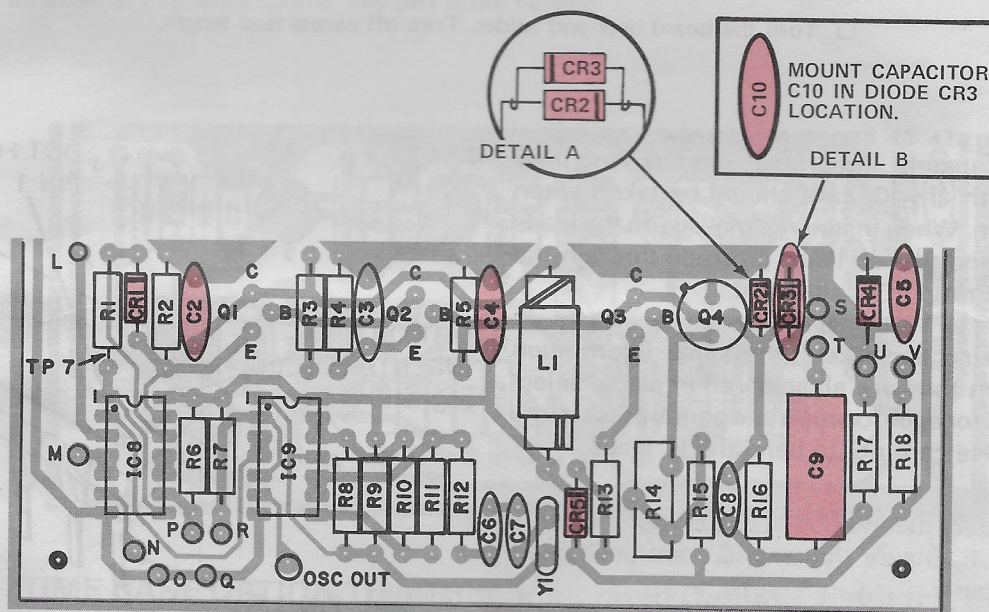

Figure 5. 60 HZ OPTION Diode and Capacitor Installation Diagram
**Mount in the CR3 position (Detail "B" on figure 5). This properly locates C10 in the circuit.